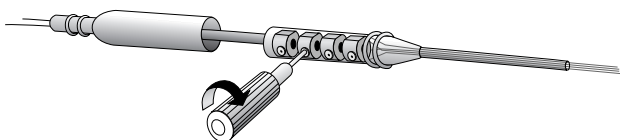

Figure 25. Tighten setscrews.
3. Tighten each of the four setscrews by turning them clockwise in the setscrew sockets with the hex wrench provided (Figure 25). Tighten the setscrews only until they touch the contacts. Continue tightening for a maximum of 1/4 turn only.